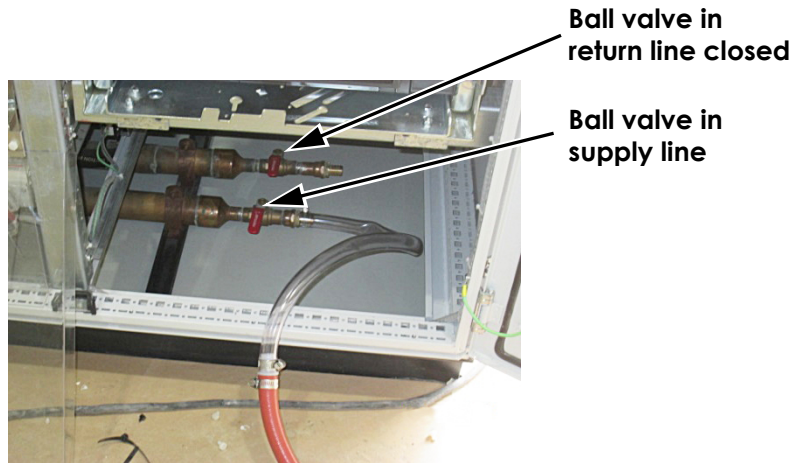
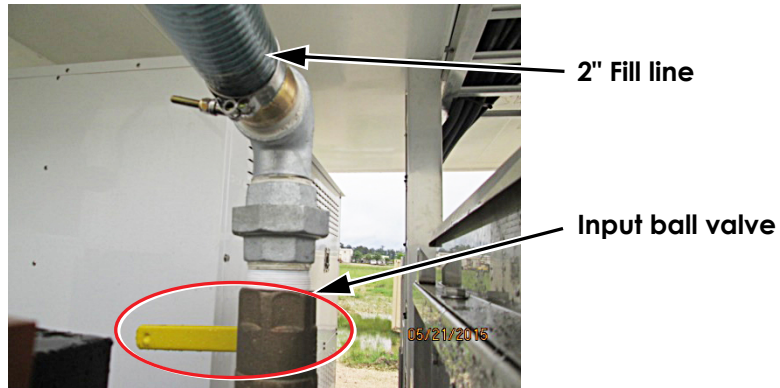

Figure 10: The supply line is the most forward connection in the VFD lineup
Figure 11: Input ball valve closed
14. Ensure that the ball valve in the return line at the low point drain connection is closed. (The return line is the furthest rearward position in the cabinet.) Connect a transparent tube to the low point drain connection of the supply line. The supply line is the most forward connection in the cabinet. See Figure 10.
15. Route the supply line back to the supply tank. Stabilize the end of the hose with zip ties to keep pressure from blowing it out of the tank and then open the ball valve at low point drain connection of the supply line. See Figure 9 on page 6 and Figure 10 above.
16. Ensure the input ball valve at the heat exchanger riser is in the closed position and connect the fill line input from the supply tank to the 2" NPT union connection at the heat exchanger riser. See Figure 9 on page 6 and Figure 11.
- 33. Once a translucent fluid is observed throughout the entire circuit, close the low point drain connection (see Figure 10 on page 7) and then fill connection ball valve (see Figure 11 on page 8).